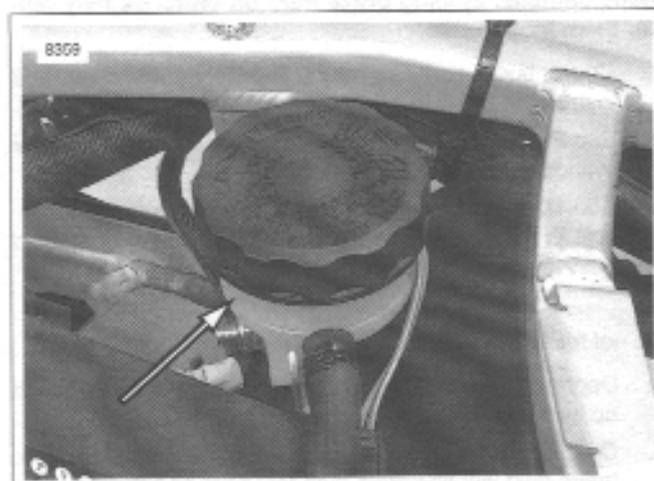

Figure 1-9. Rear Master Cylinder Reservoir
3. See Figure 1-9. Remove cap and gasket from rear master cylinder reservoir.